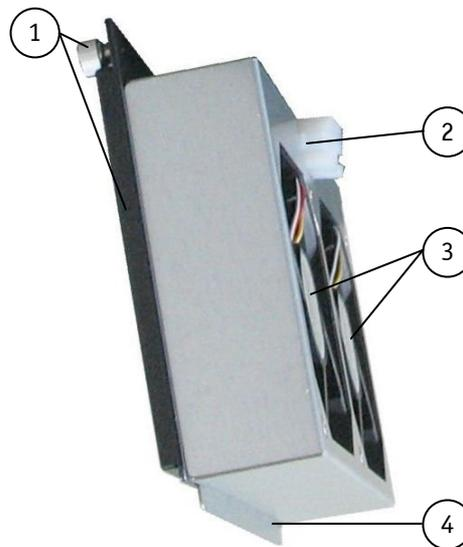

Fig. 27: Fan slide-in module
The two system fans (Fig. 27 and Fig. 47, pos. 3) are integrated in a user-friendly, replaceable fan slide-in module (hot-swap). The fan slide-in module is mounted in a fan compartment on the front side of the system (Fig. 46, pos, 5).